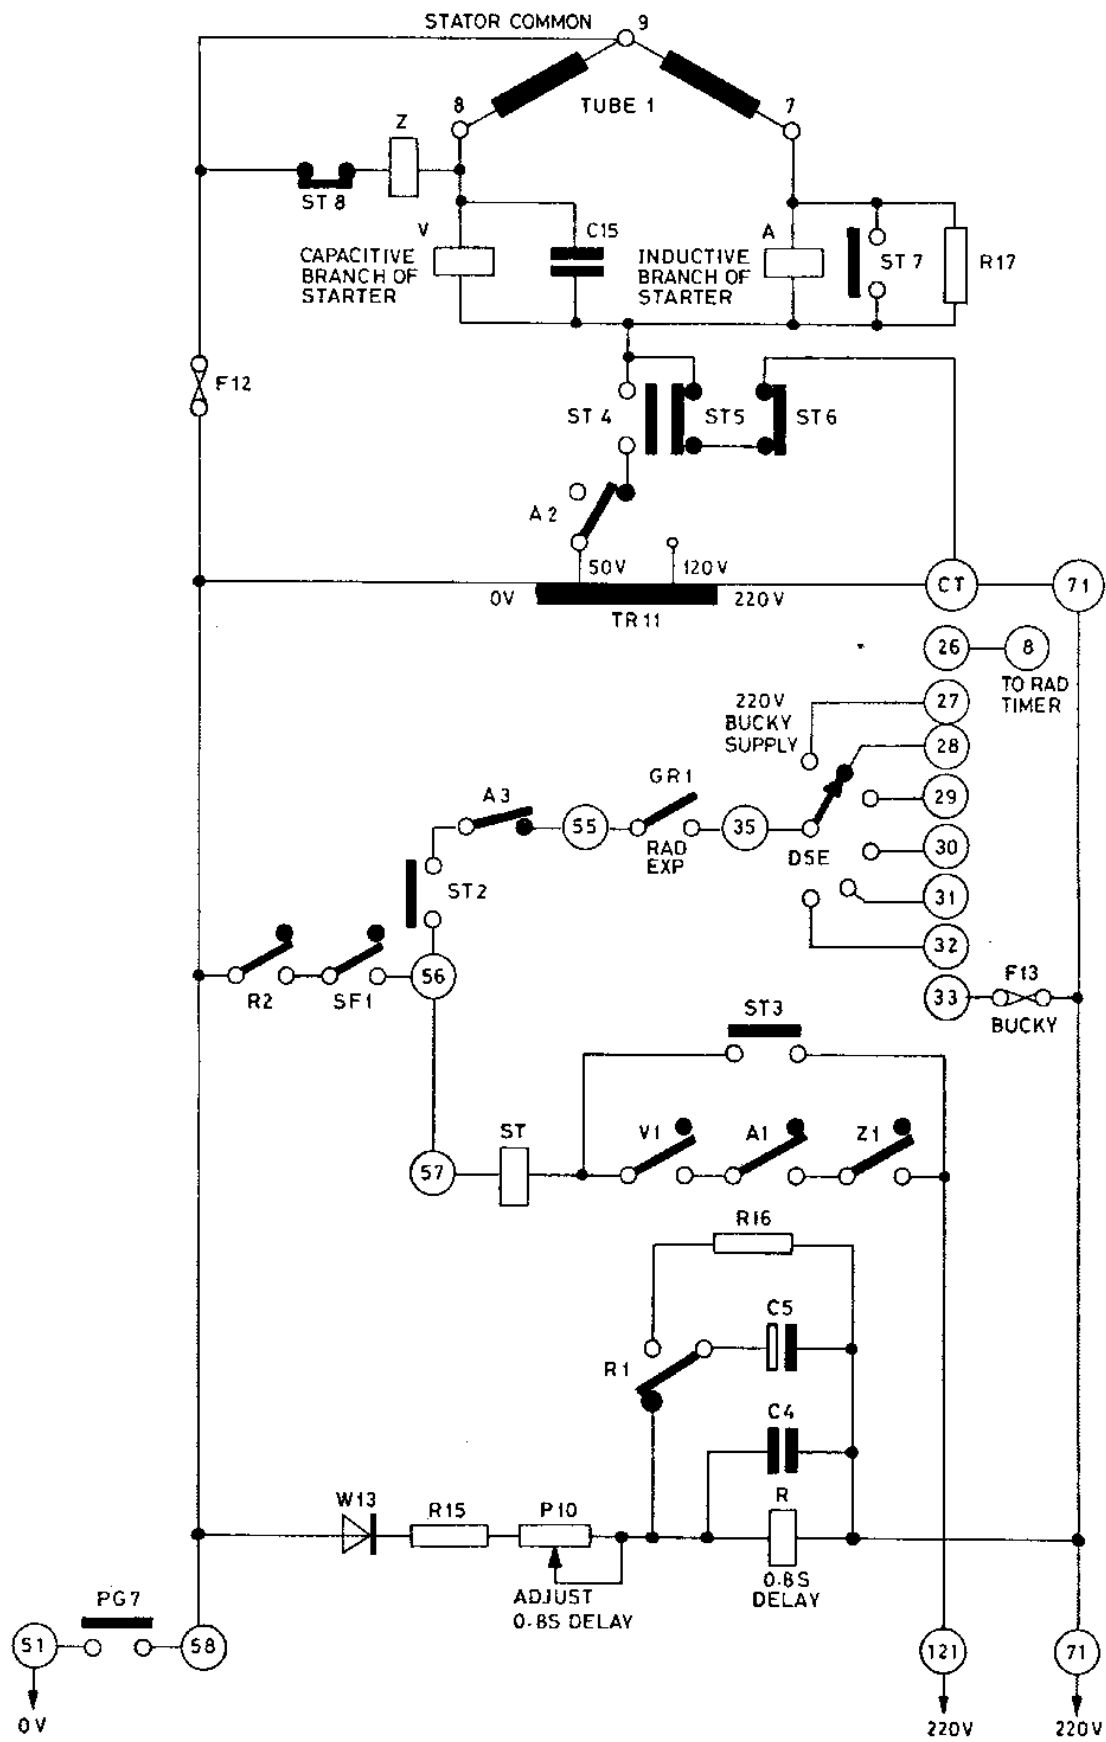

Fig 39 TUBE STATOR CIRCUIT
9.6 TUBE STATOR CIRCUITS (FIG 39)
Contact R/2 Closes in the ST relay circuit and if the interlocks are all completed the relay contacts will change over to reduce the stator volts from the rapid start to the run condition. (Grid ref 4G in Fig 34 and also Fig 39).